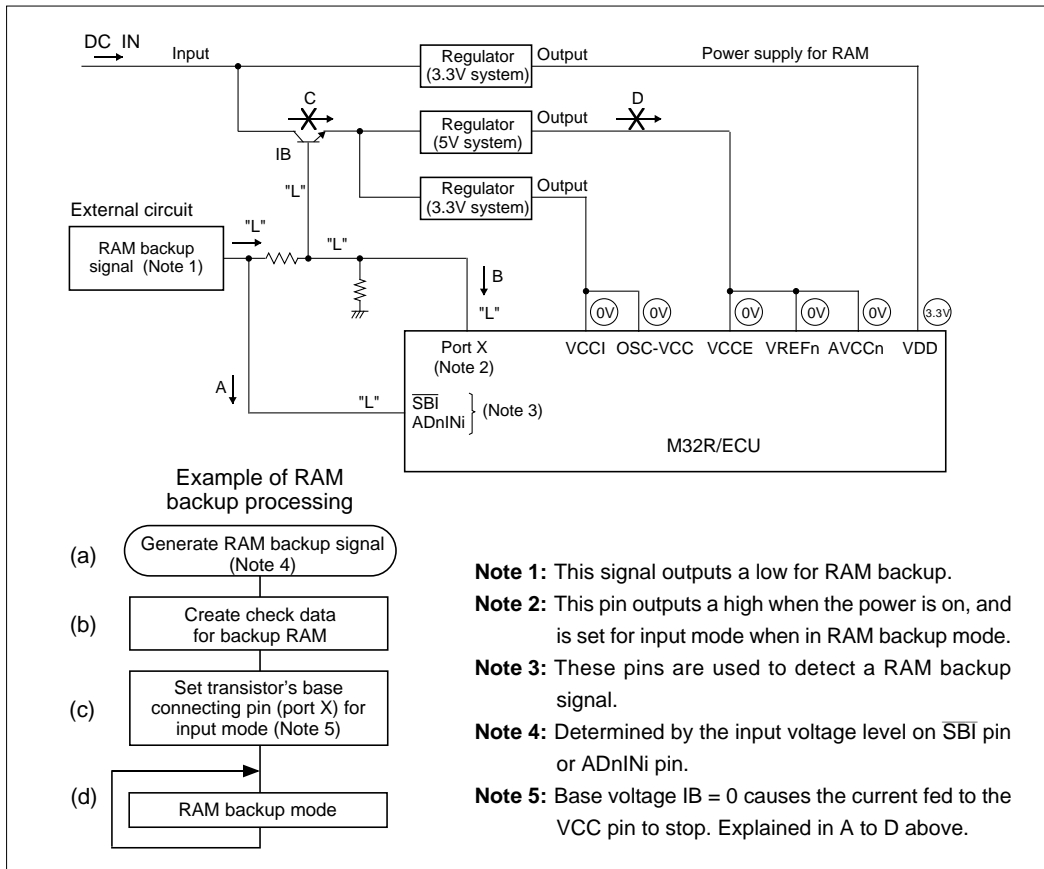
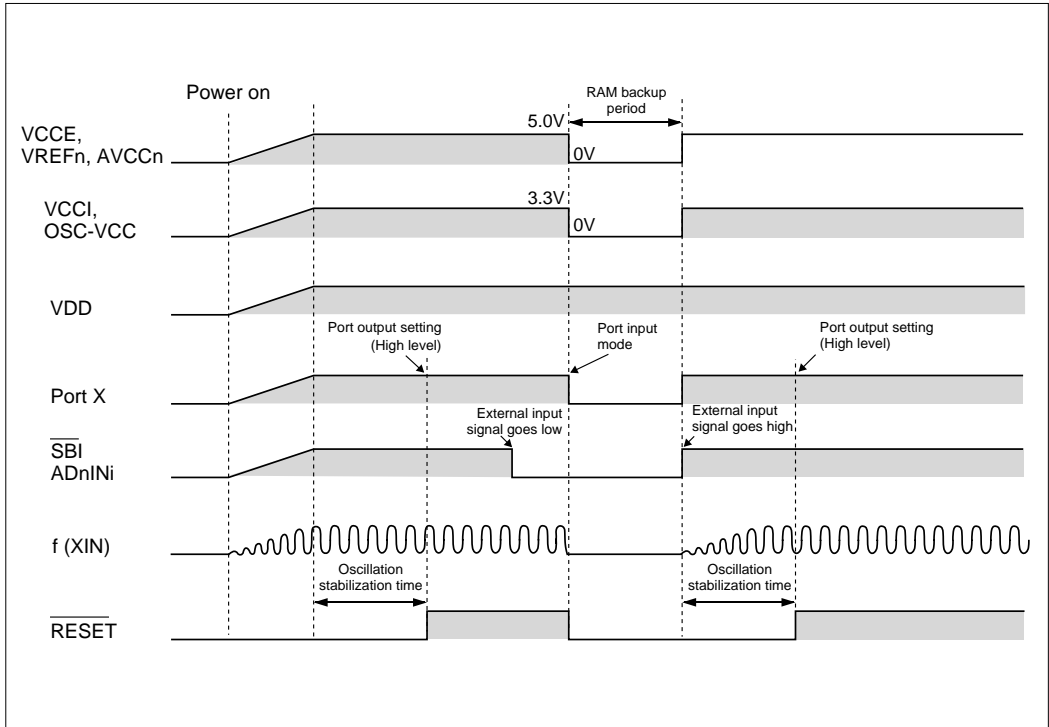

Figure 17.3.3 RAM Backup State for Low-Power Operation
Figure 17.3.4 Example of RAM Backup Sequence for Low-Power Operation
Figure 17.3.3 shows the RAM backup state of the M32R/ECU. Figure 17.3.4 shows a RAM backup sequence. When the external circuit outputs a low, input on the $\overline{\text{SBI}}$ pin or ADnINi pin goes low. A low on these input pins generates a RAM backup signal (A and (a) in Figure 17.3.3). To enable RAM backup mode, make the following settings.
- (1) Create check data to verify after returning from RAM backup to normal mode whether the RAM data has been retained normally ((b) in Figure 17.3.3).
- (2) To materialize low-power operation, set all programmable input/output pins except port X for input mode (or for output mode, with pins outputting a low) ((c) in Figure 17.3.3).
- (3) Set port X for input mode (B and (d) in Figure 17.3.3). This causes the transistor's base voltage, IB, to go low, so that no current flows from the power supply to the VCC pin via the transistor (C in Figure 17.3.3). Consequently, the power to the VCC pin is shut off (D in Figure 17.3.3).